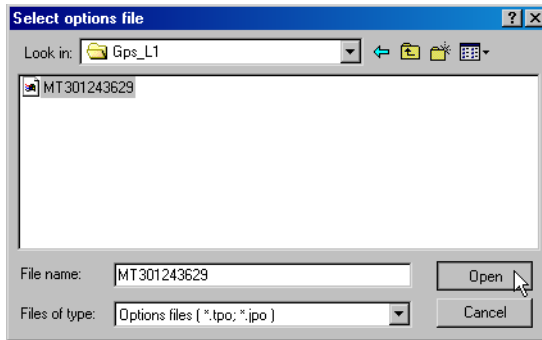

Figure 3-21. Load OAF
3. Navigate to the location of the new Option Authorization File. OAFs have .jpo or .tpo extensions and are unique to each receiver (Figure 3-21).
4. Select the appropriate file and click **Open** (Figure 3-21). The new receiver option uploads to the receiver and the Option Manager table updates.